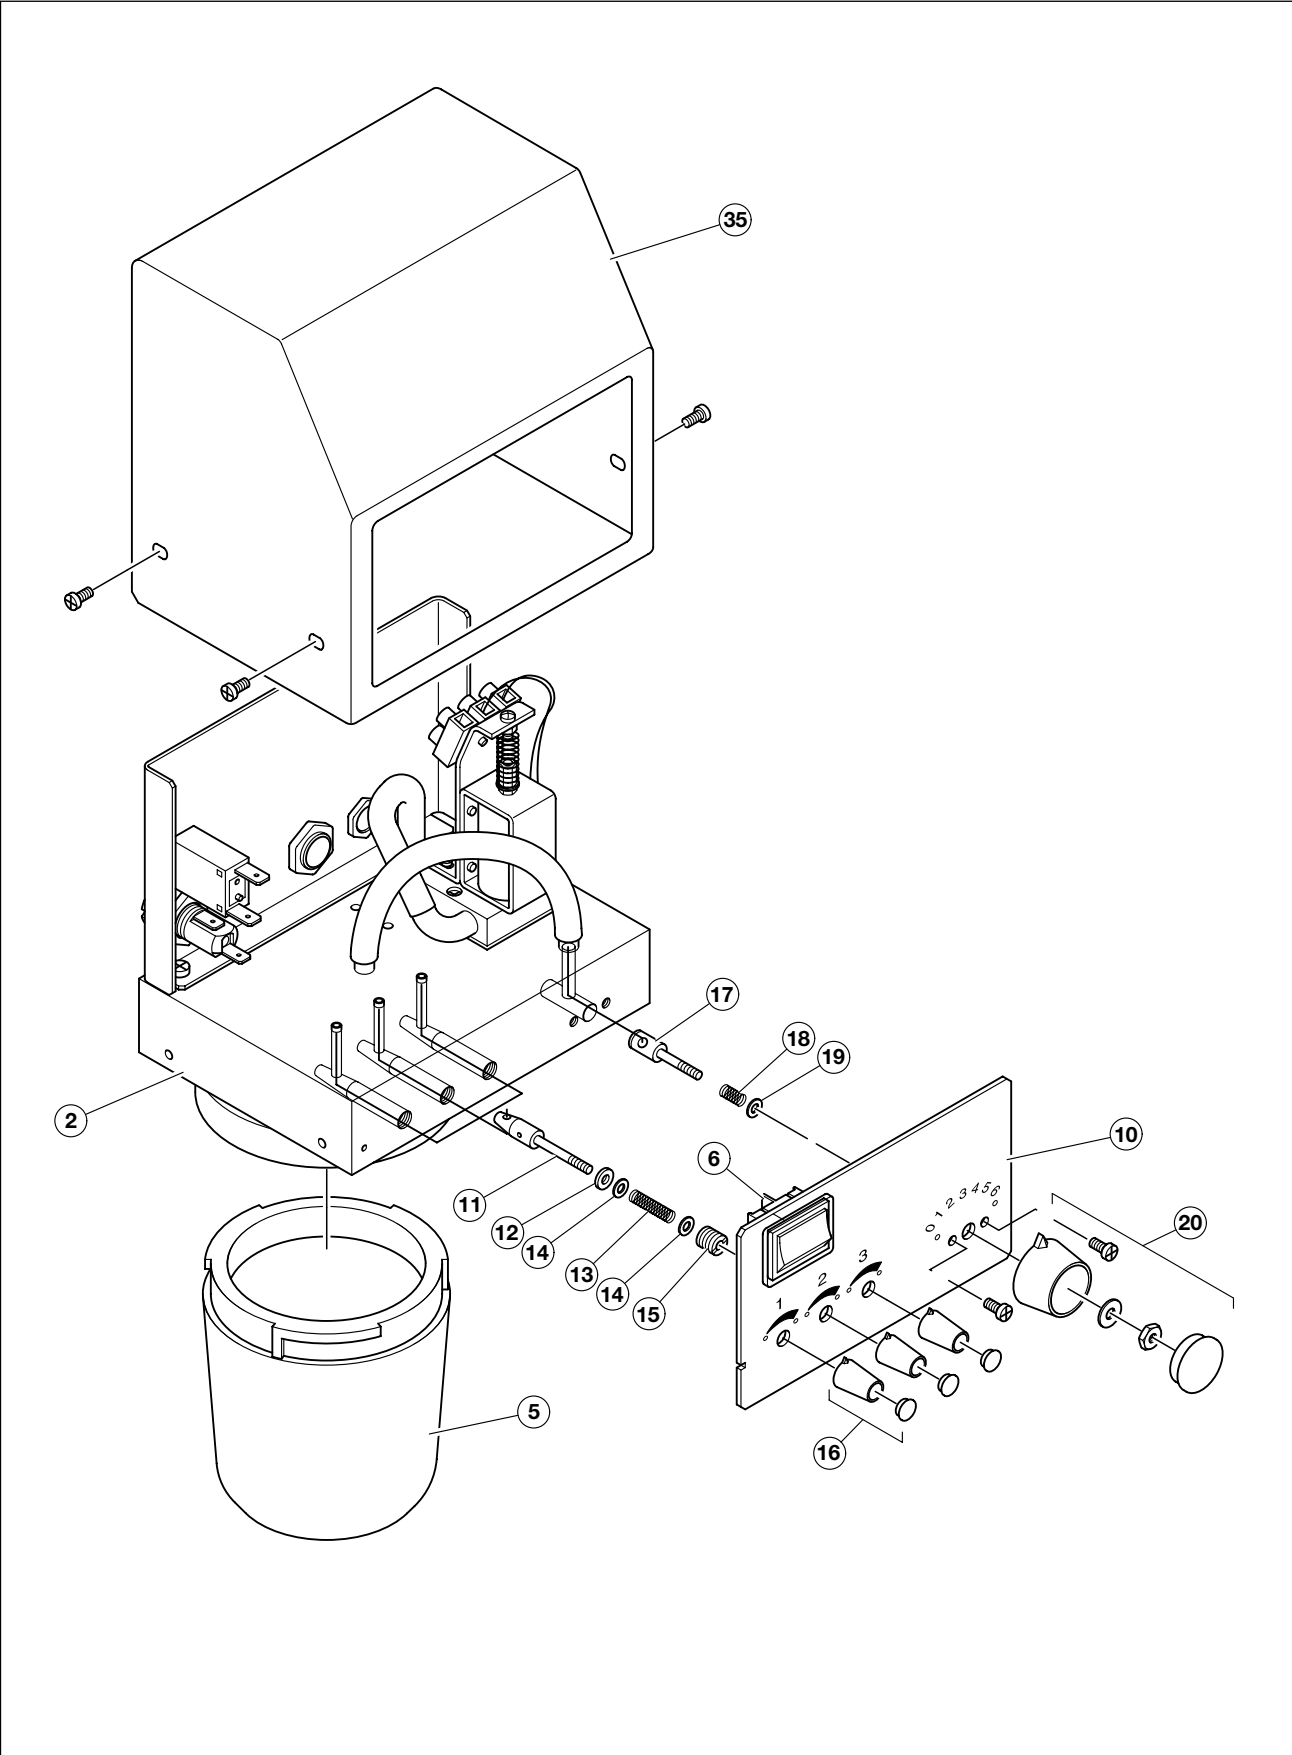

Fig. 10 Disassemble and reassemble valves
- 15 Push the rotary knobs 16 on the outlined valve head 11 into the maximum position and screw tight (0.5 mm distance to the front plate) (see Fig. 10/Page 36).